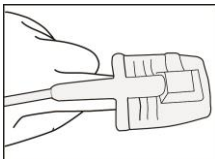

Fig.3-2
(2) Secondly place the sensor on your finger correctly as shown in Fig.3-2. Be sure to make the finger touches the bottom of the probe and the nail surface is facing upwards as shown.